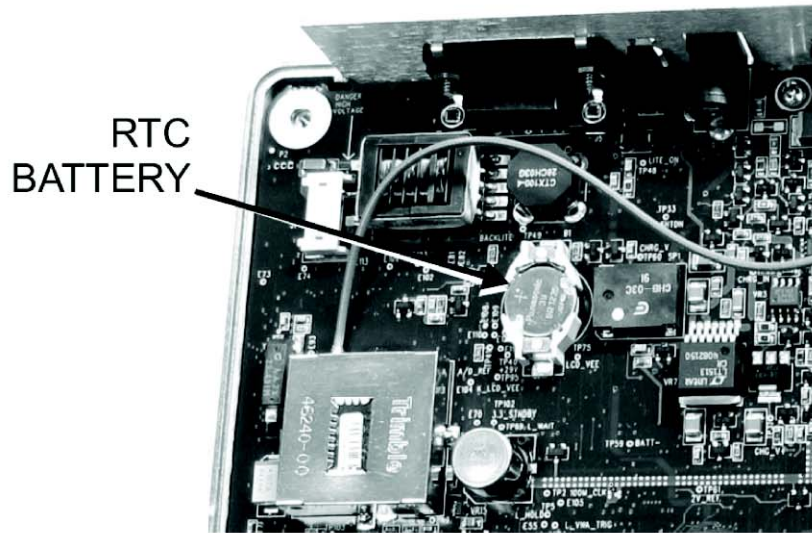

Figure 3-9. Real Time Clock Battery
2. Locate the RTC battery as shown in Figure 3-9 below.